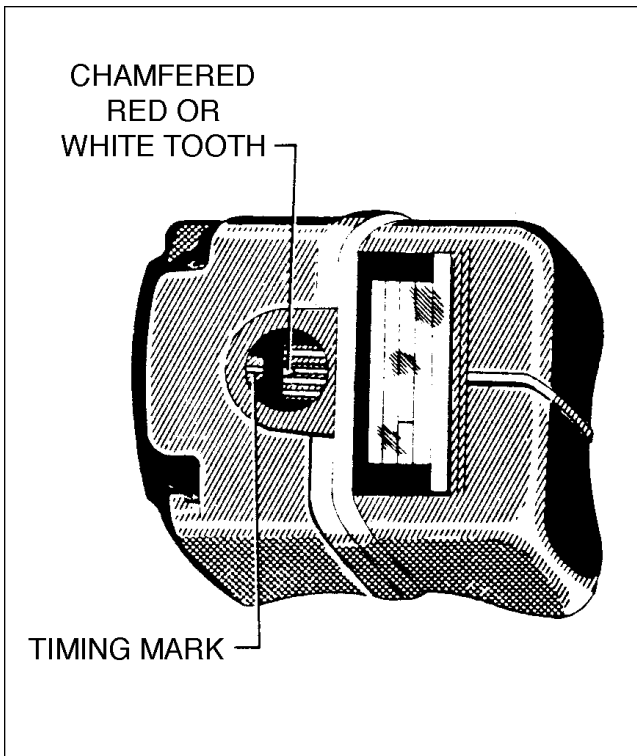
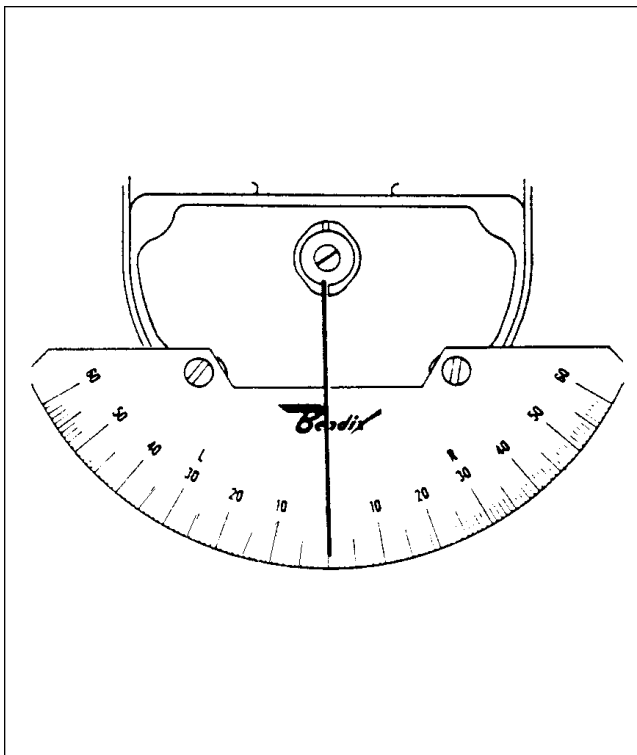

Figure 8-17. Magneto Timing Marks
Figure 8-19. Timing Kit Installed
1. The distributor drive gear will have one chamfered tooth marked white or red. To determine "E" gap, locate neutral position of the magneto drive by rotating the drive coupling in a left hand direction until the red or white chamfered tooth on the distributor drive gear appears through the timing inspection hole. (Refer to Figure 8-17.) At the same time, the drive should feel to have fallen into a neutral position.
2. With timing plate and pointer attached (Refer to Figure 8-19.) and pointer set at zero, rotate coupling from neutral in a left hand direction 10 degrees. Appearing through timing hole, check that the white or red tooth aligns with the white line of the distributor block (refer to Figure 8-17). Alignment may not vary over  $\pm 4$  degrees.